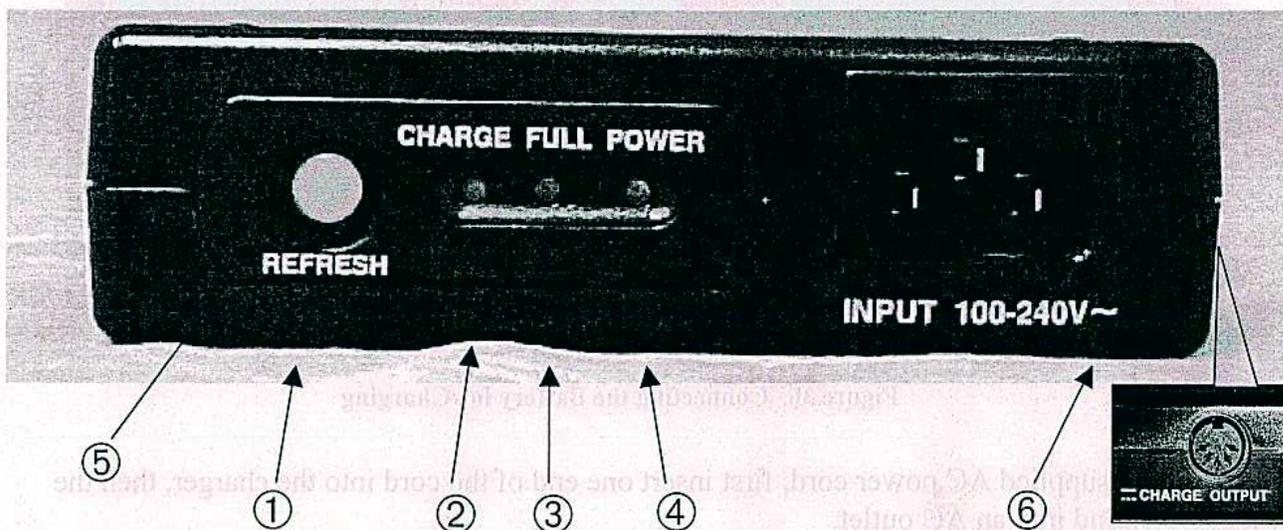

Figure 35. Battery Charger Status LED's
BU-65 battery packs are re-charged using the PS-65 power supply/battery charger. The charger has 3 status LED's located on the front panel, that identify the stage of the charging process. Figure 35 describes the LED's and each various status condition.
4. When refreshing is complete the charging cycle will automatically begin. (Refer to Figure 35 for information on status LED’s.)